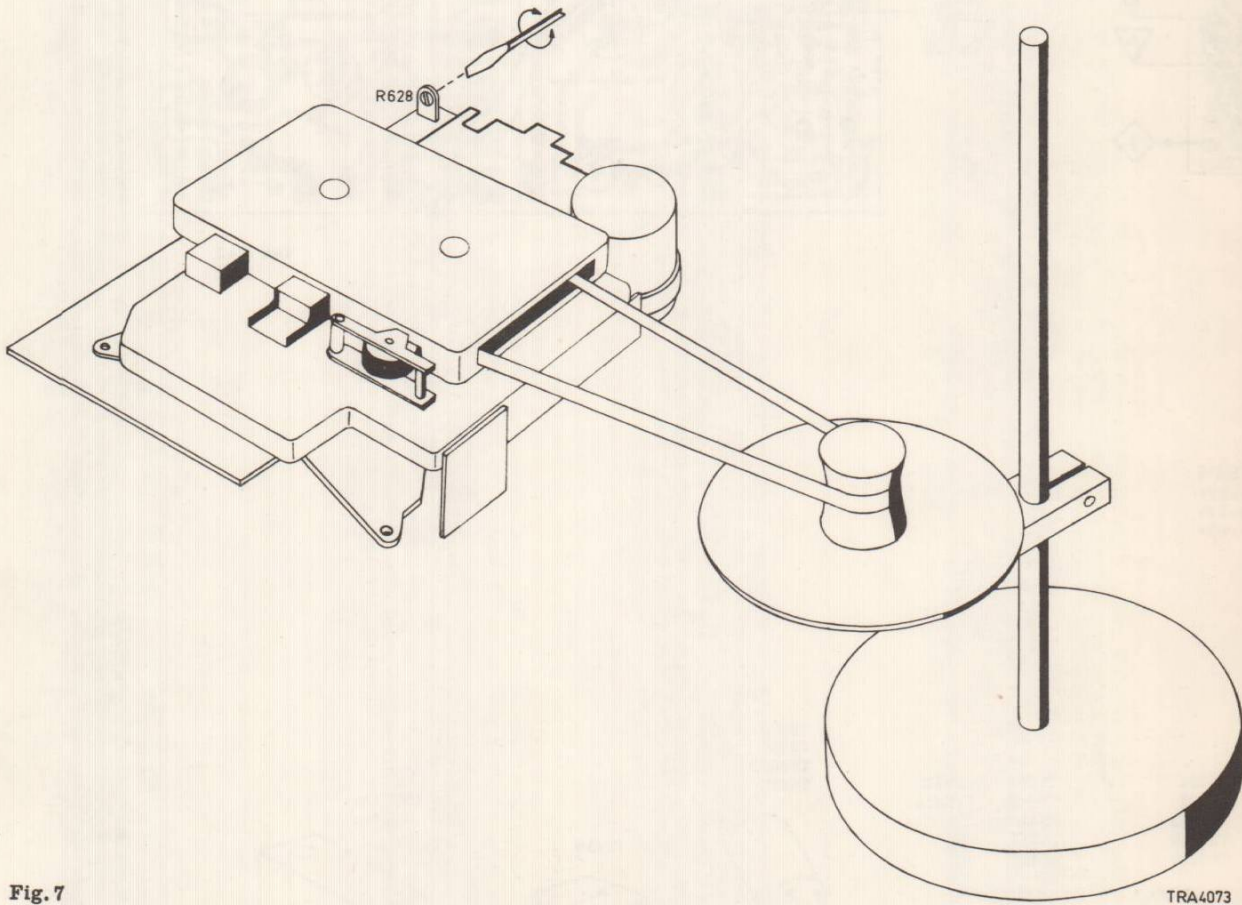

Fig. 7
Open one side of the cassette so that the tape can be taken out sideways (see cassette in Fig. 7). Be sure that only leader tape is wound onto the reel near the opening.
Make a loop in the leader tape, which is taken out of the opening in the side of the cassette, and hook a spring pressure gauge into this loop. Put the cassette in the recorder as shown in Fig. 7. Set the recorder to position "playback".
2. With the aid of a stroboscopic disc, see Fig. 7
Remove the recorder from the cabinet and insert the cassette. Place a stroboscopic disc next to the recorder (for code number see "auxiliaries") and connect the set-up as shown in Fig. 7.
If the speed of the recorder is too low, check that the pressure roller, winding friction, flywheel etc., do not run heavily. After this, the speed can be adjusted with R628, see Fig. 7.